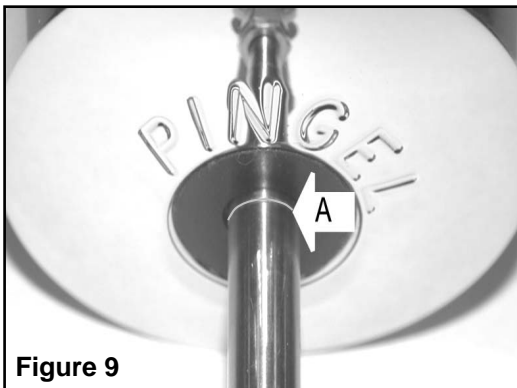

Figure 9
Before adjusting the shift cylinder front or back make sure the motorcycle transmission is in a resting position. While holding onto the electric shift cylinder housing, loosen the two screws on the clamp. Find the groove in the center of the cylinder shaft. Adjust the cylinder housing front or back so the groove in the shaft is exactly at the plastic bushing, located on the bottom of the cylinder housing, as shown in (A) figure 9. With the shift cylinder in the correct position, tighten the two bolts of the Pingel clamp.